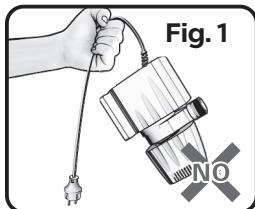

Fig. 1
- Do not lift, lower or handle the pump by pulling on the electrical cord. Make sure the electrical cable does not become excessively bent or twisted and does not rub against a structure in a way that might damage it. (Fig. 1)